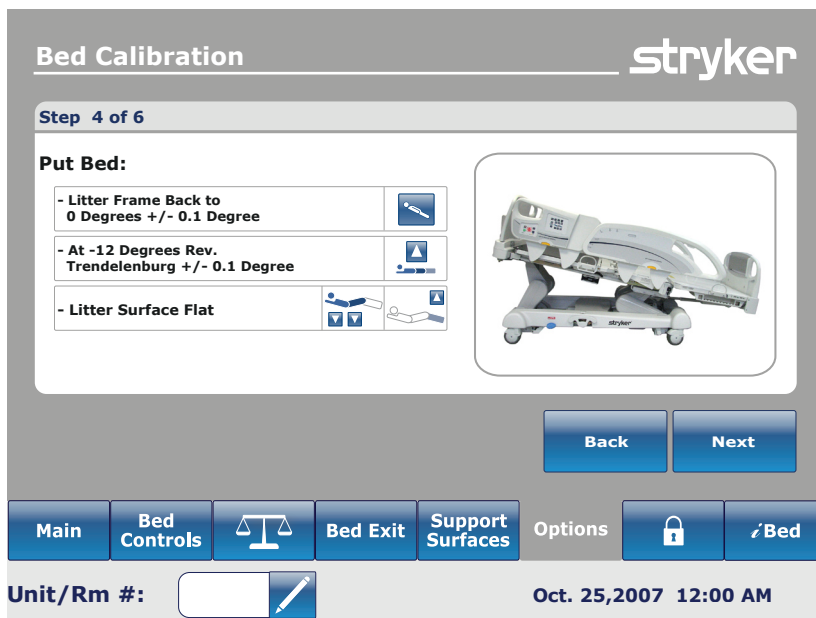

Figure 16: Bed Calibration - Step 4
15. When step 3 of the calibration procedure has completed, step 4 of the calibration procedure will begin and Figure 16 will be displayed as shown below.